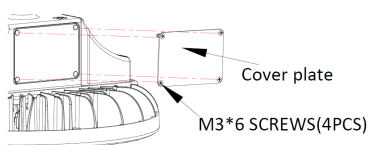

FIG. 4
- 4.1 Connect the wires in junction box (See Fig. 4)